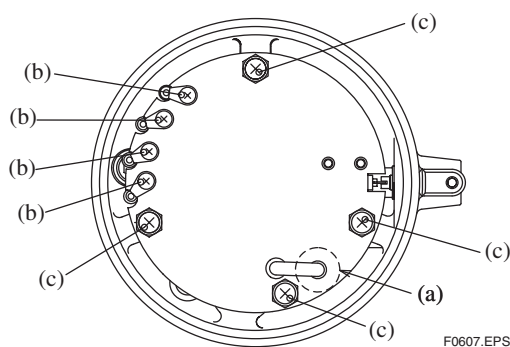

Figure 6.7 Pressure Sensor and Amplifier Set Screws
- (4) Fasten the four set screws for fixing the amplifier (see Figure 6.7).
- (5) Connect the four wires in the order of yellow (ACT+), white (ACT-), red (IN+) and black (IN-).
- (6) Insert the silicon tube into the amplifier pressure sensor firmly.